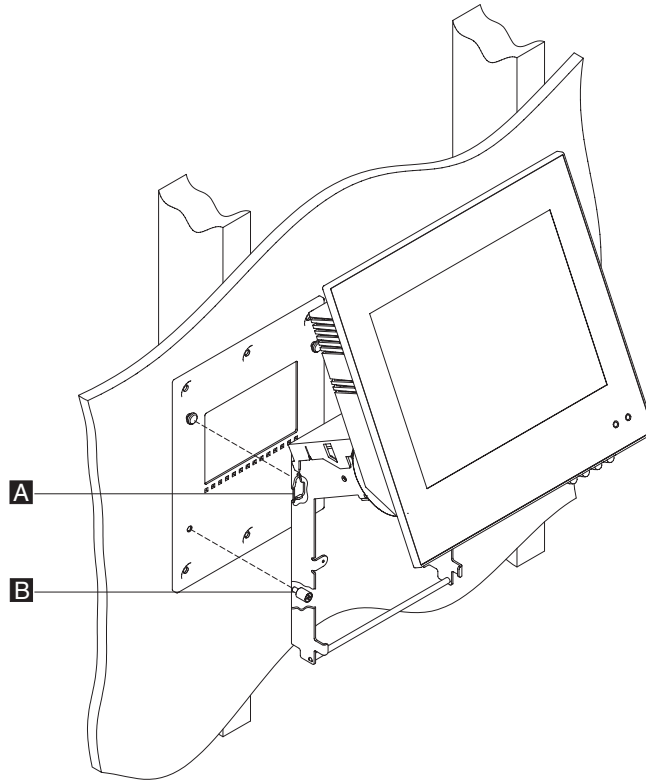

Figure 112. Aligning the base bracket to the wall mount plate support post
1. With two hands, carefully support and lift the system up and align points **A** and **B**, on both sides of the base bracket, with the wall mount plate as shown in Figure 112.